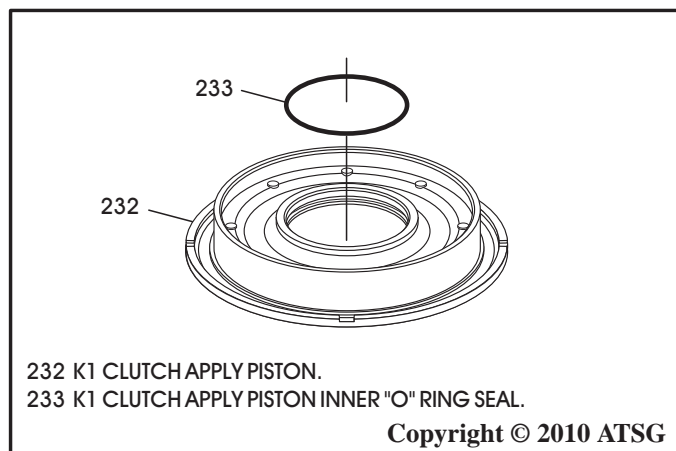

Figure 123
4. Install new inner "O" ring seal into the groove of the K1 clutch apply piston, as shown in Figure 123, and lube with Trans-Jel®.